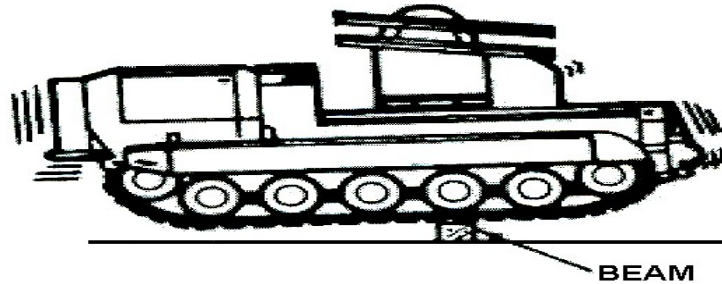

Figure 3-22
- a. Order driver to drive the vehicle onto a wooden beam or pole until the vehicle tilts forward (see Figure 3-22).